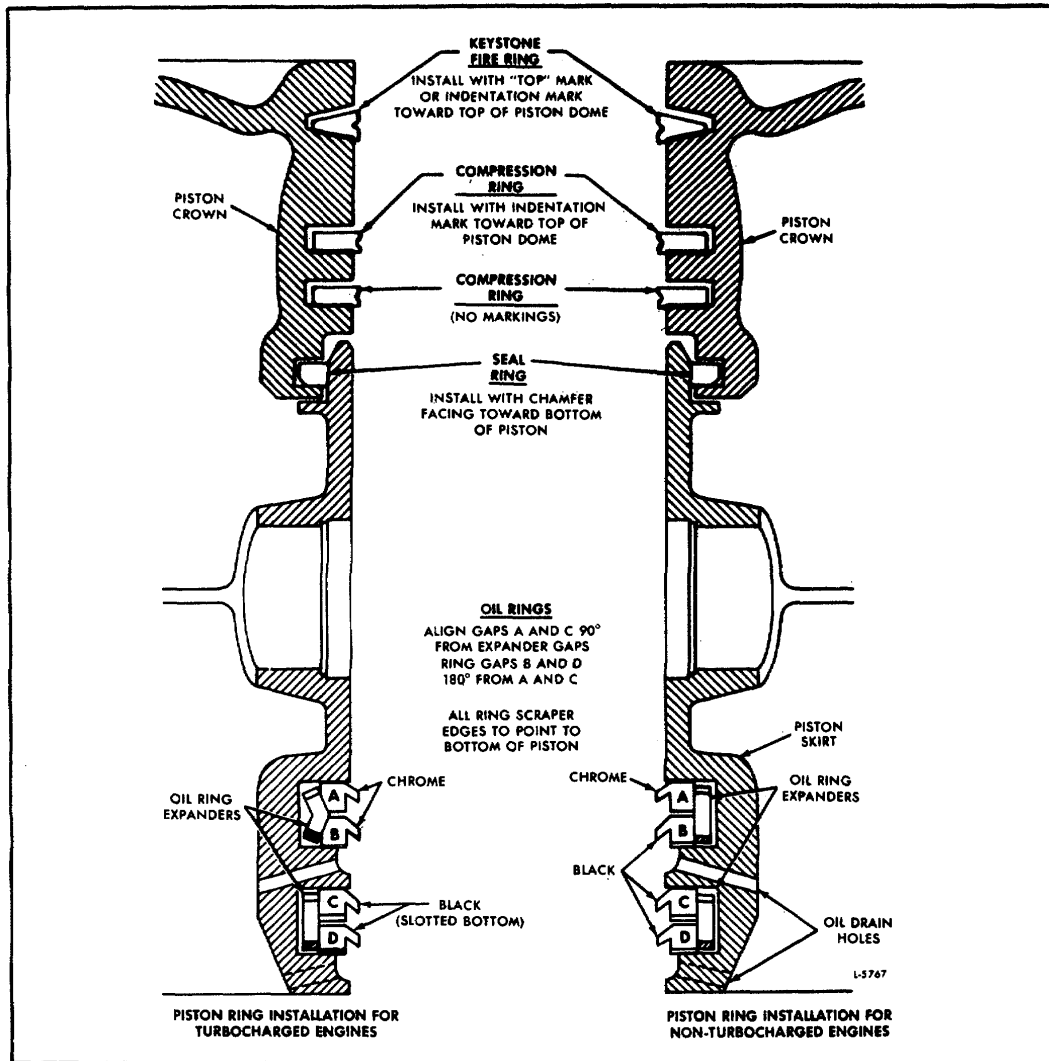

FIG. 28- Piston Ring Installation Instructions
1. Starting with the bottom ring, install the compression rings with tool J 8128 as shown in Fig. 16. To avoid breaking or overstressing the rings, do not spread them any more than necessary to slip them over the piston. Refer to Fig. 28 for ring identification and location.
Refer to Fig. 28 for the type and location and install the oil rings as follows:
upper half of the top oil ring and align the gaps as indicated in Fig. 28.